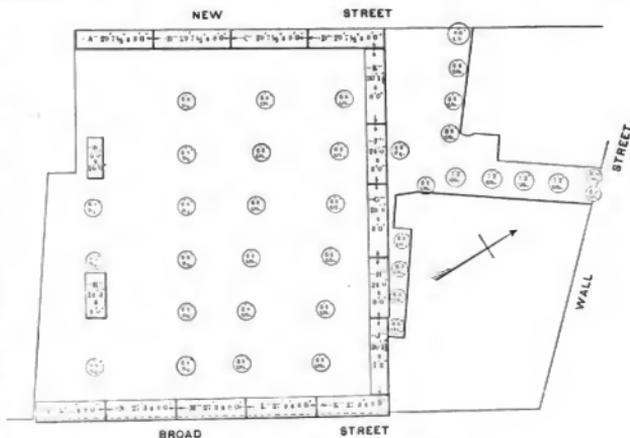

Fig. 6.—Plan showing Location of Caissons Sinking the Foundations for an Office Building.
a circular caisson with its air lock as it appears while work is in progress. Fig. 6 is a plan showing the location of the numerous caissons which it was necessary to sink to afford support for the foundations of the building.
The circular caissons, which are shown in position on the plan, Fig. 6, are also built of yellow pine staves, the
The rectangular caissons are sunk one at a time, the plan being as follows, reference being had to Fig. 6. The caisson D was sunk first, C and E next, then B. A was the last on the New street side. On the north side they were sunk in this order: E, F, G, H and J. On the east side L was first and K was sunk after J. After L the order was M, N and P. In each caisson near the bottom is a removable section or door. These are so placed
*To thoroughly understand the method of drawing the stress diagram, the reader should take a sheet of paper on a drawing board, and with T-square, scale and triangle draw the truss diagram, for which all necessary measurements are given in Fig. 6, with the utmost accuracy. Having drawn the truss diagram, draw the stress diagram line by line, according to the directions, being careful to draw the lines perfectly parallel with those in the truss diagram.